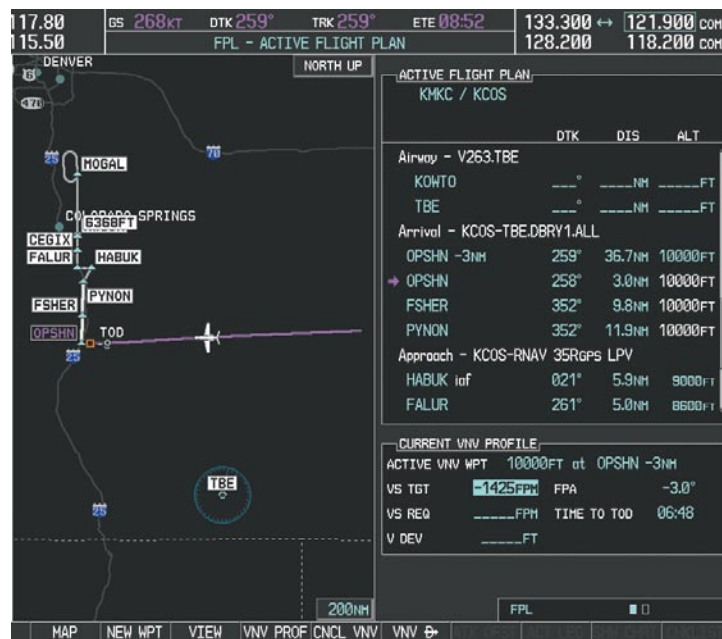

Figure 5-130 Adjusting the Descent
- a) Select the **VNV PROF** Softkey to place the cursor in the target vertical speed field (VS TGT) as shown in Figure 5-130.